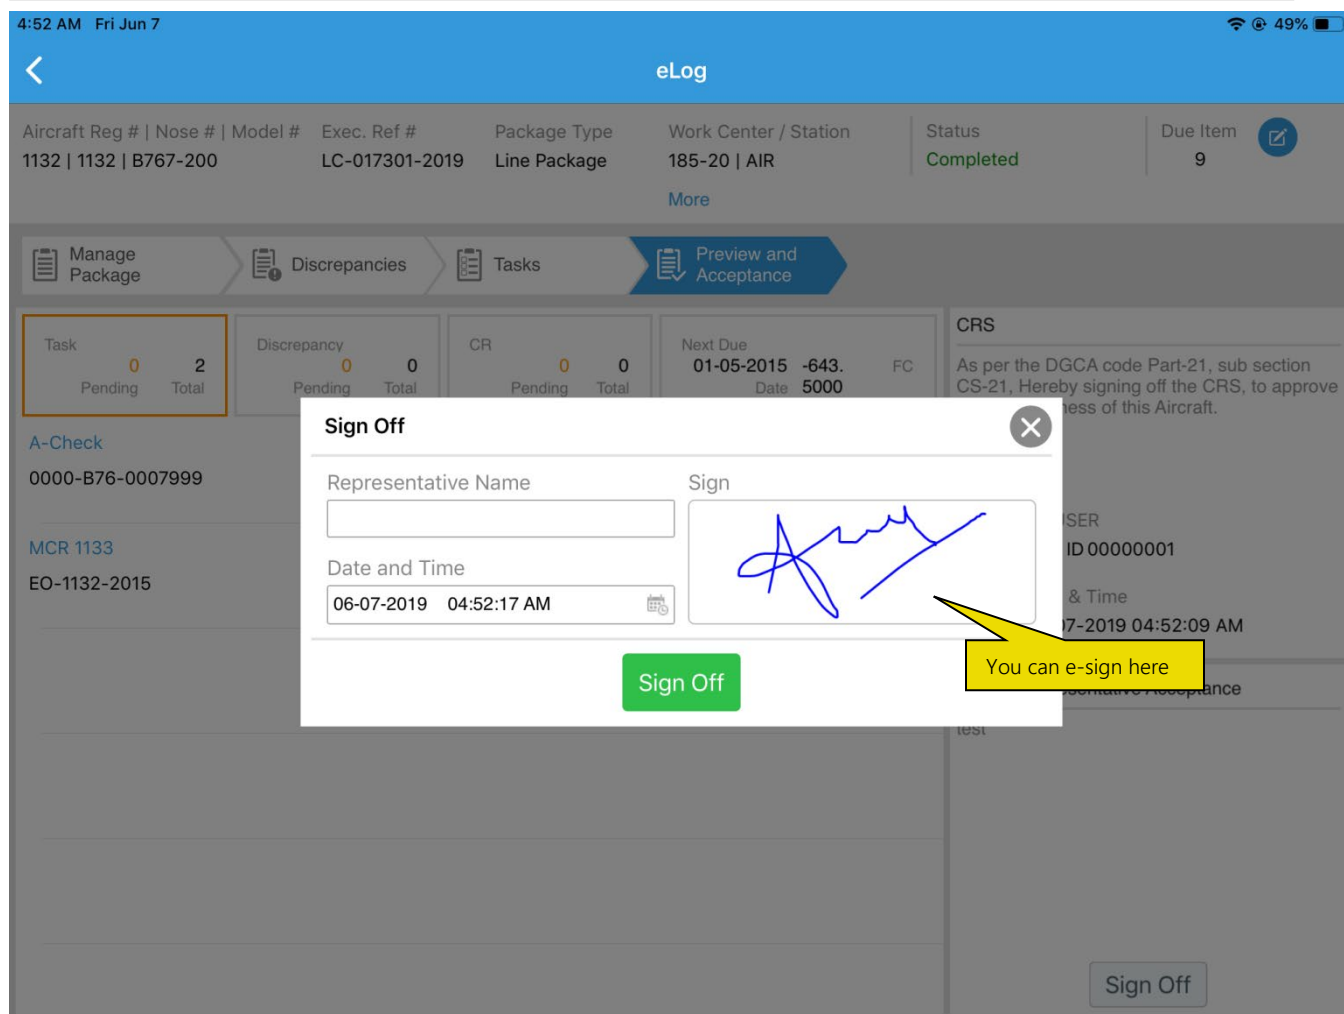

Figure 4. 33: The Interactive Sign Off popup
1. Tap **Transfer Work Package** in the left pane of **LineAnywhere**. See Figure 4. 34.